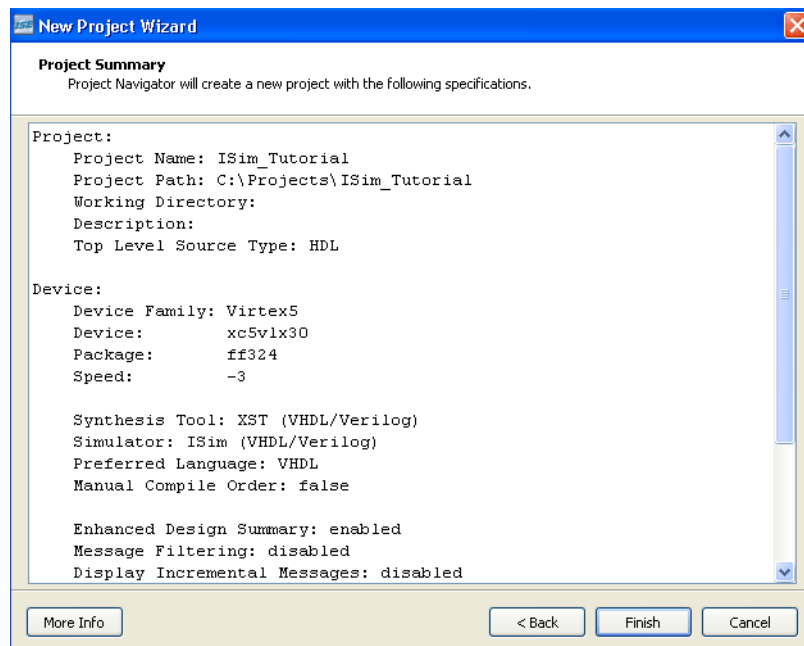

Figure 2-8: Project Summary
12. Review the Project Summary page and make sure that the settings match those shown in Figure 2-8.